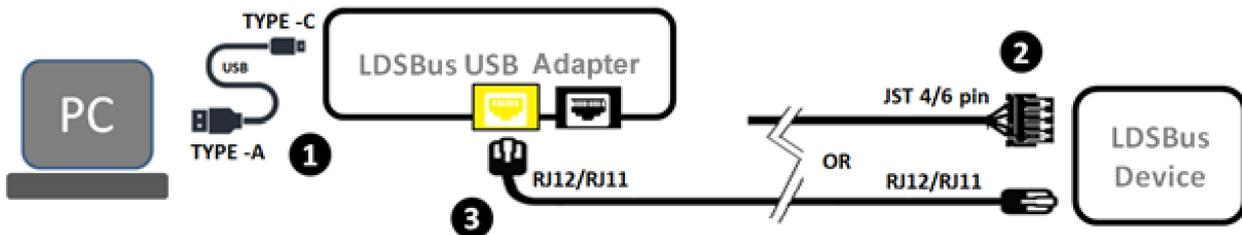

Figure 2 - Connection Diagram
Figure 2 illustrates the connection of the LDSBus USB Adapter based on the applications.
1. Connect the LDSBus USB Adapter to the Windows PC with the USB-C to USB-A cable as shown in Figure 2.
2. Ensure that the LDSBus Device is connected to its cable at one end as shown in Figure 2.
3. Attach the other end of the cable to the LDSBus USB Adapter as shown in Figure 2.